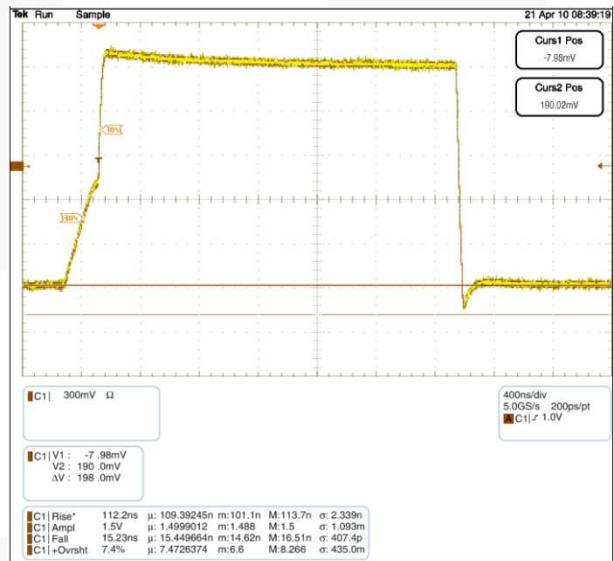

Figure 4. Waveform C: 600pF, Total R_{PU}: 2.2KΩ
C = the bus capacitance. If the FXMAR2104 is attached to the master [on the A port] and there is a slave on the B port, the Npassgates act as a low resistive short between the ports until either of the port's V_{CC}/2 thresholds are reached. After the RC time constant has reached the V_{CC}/2 threshold of either port, the port's edge detector triggers both dynamic drivers to drive their respective ports in the LOW-to-HIGH (LH) direction, accelerating the rising edge. The resulting rise time resembles the scope shot in Figure 4. Effectively, two distinct slew rates appear in rise time. The first slew rate (slower) is the RC time constant of the bus. The second slew rate (much faster) is the dynamic driver accelerating the edge.